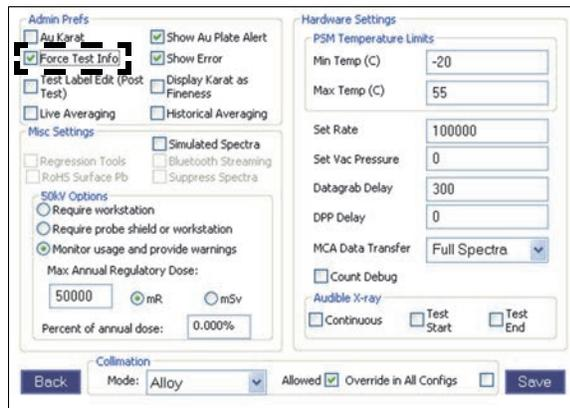

Figure 1-18 Misc settings – Force Test Info check box
- Under **Admin Prefs**, select **Force Test Info** (see Figure 1-18 on page 17)